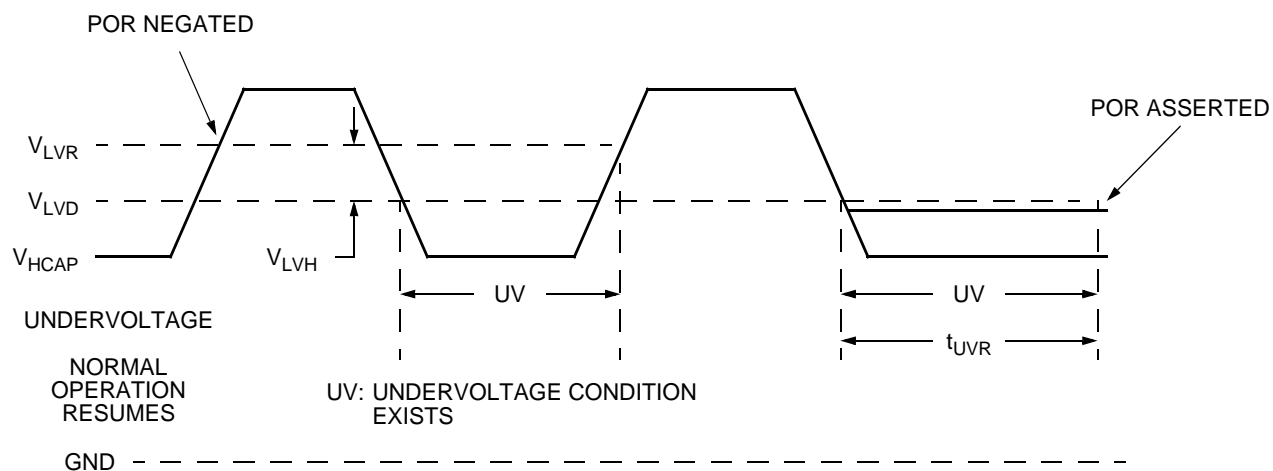

Figure 5-1. V_{HCAP} Undervoltage Detection
| 120 | VHCAP Undervoltage Reset Period (see Figure 5-1) $V_{HCAP} < V_{RA}$ to POR assertion | t_{UVR} | 0.95 | 1.0 | 1.05 | ms | (8) | |